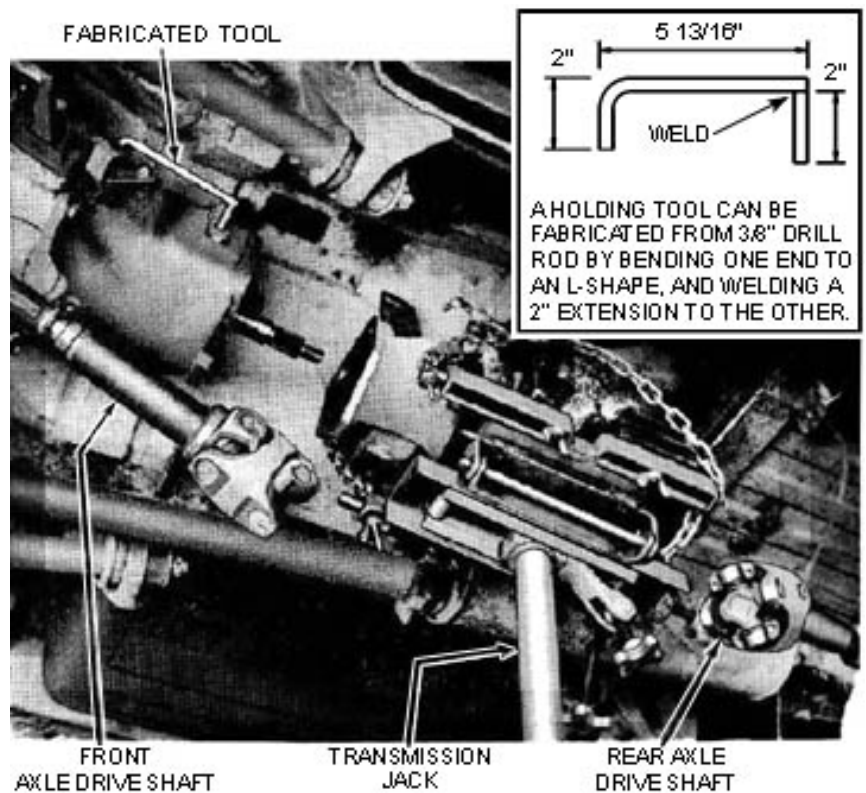

Figure 2 – Removing or Installing Transfer Case
4. Disconnect the front and rear drive shafts at the transfer case (Fig. 2).
6. Disconnect the shift rods from the transmission shift levers. Then, place the first-reverse gearshift lever into the first gear position, and insert the fabricated tool (Fig. 2). This tool will prevent the input shaft roller bearings from dropping into the transmission case when separating the transfer case from the transmission and output shaft.
13. Move the transfer case and jack rearward until it clears the transmission output shaft (Fig. 2). Lower the transfer case.
1. Position the transfer case to the transmission (Fig. 2) and install the attaching bolts. Torque the bolts to specifications.